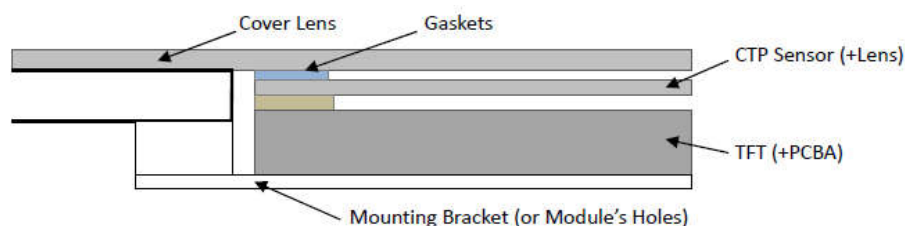

Figure 3
1.3 Additional Cover Lens Mounting (Figure 3)